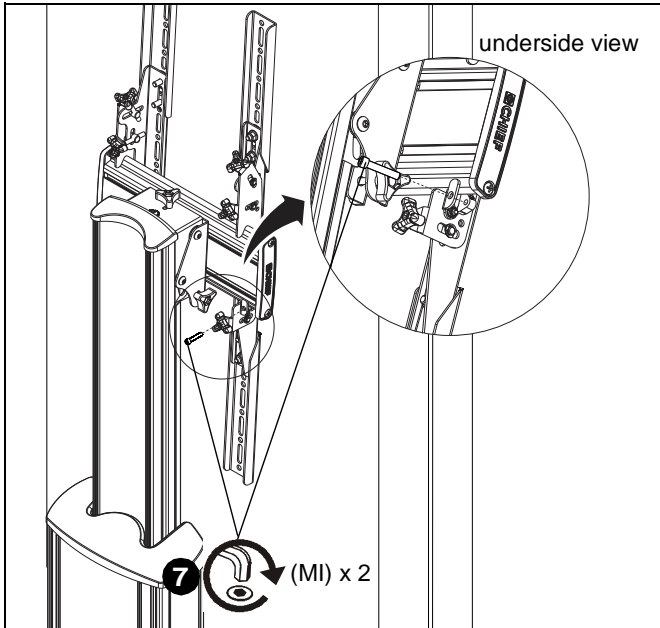

Figure 5
6. Hang interface brackets (A and B) to interface head assembly (E). (See Figure 5)
7. Use 1/4-20 x 1 1/4" socket head cap screws (MI) to secure interface brackets (A and B) to rails for each display. Screws must engage through both holes to be fully secured. (See Figure 5)